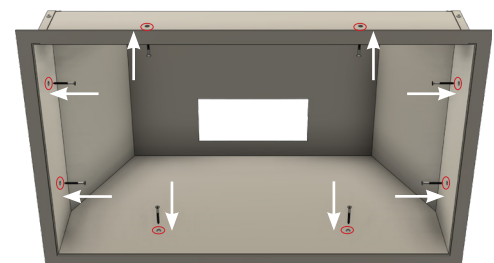

Figure 2
- Insert and tighten all screws into the pre-drilled holes on the Hood body until it is securely mounted to the wood hood. **(Figure 2)**